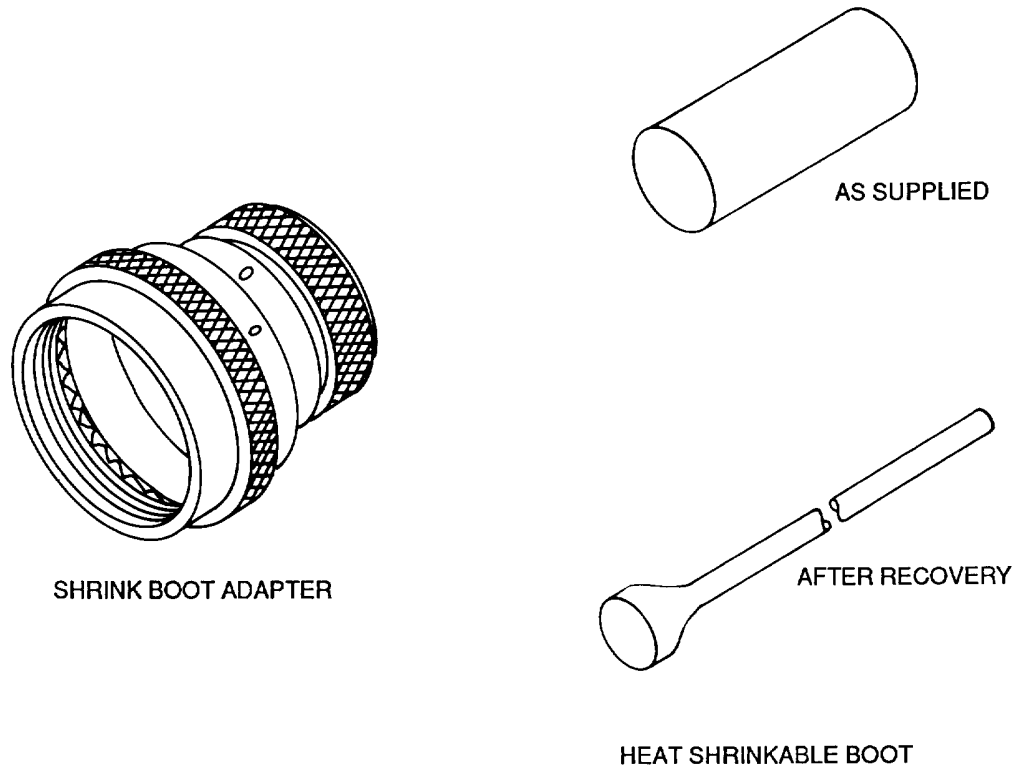

Figure 6. Typical Shrink Boot and Adapter.
23. **Shrink Boot and Adapters.** Shrink boots are heat shrinkable insulation sleeves used to insulate and seal the connector. Shrink boots are procured by the recovered or shrunk diameter. The adapter is a threaded coupling which attaches to the connector and to which the shrink boot seals (Figure 6).